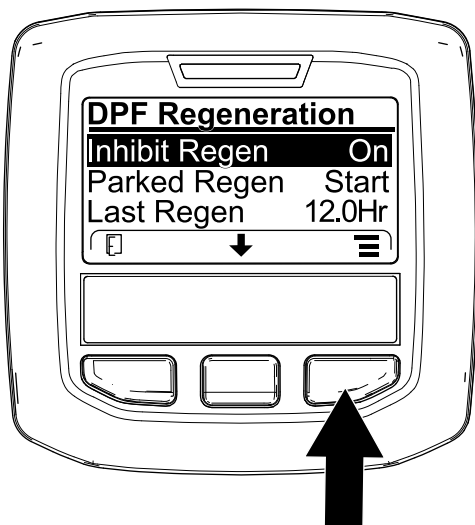
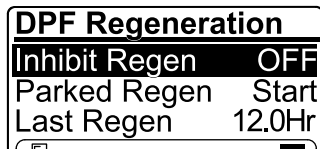

Figure 76
Figure 77
1. Access the DPF Regeneration menu, press the center button to scroll down to the INHIBIT REGEN option, and press the right button to select the Inhibit Regen entry (Figure 76).
2. Press the right button to change the inhibit regeneration setting from On to Off (Figure 76) or from Off to On (Figure 77).